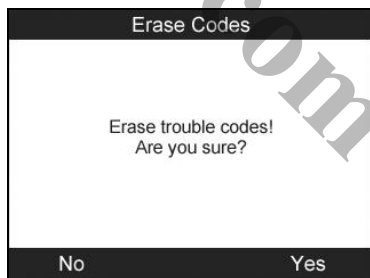

Figure 6.6
- 2) A confirm screen will show up. Press the corresponding **FUNCTION BUTTON 'Yes'** to continue; otherwise press the corresponding **FUNCTION BUTTON 'NO'** to exit. (Figure 6.6)